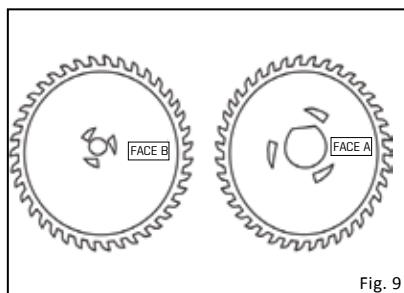

Fig. 9
1. Identify "Face A" and "Face B" on your new set of DUALSAW blades. (Fig. 9)